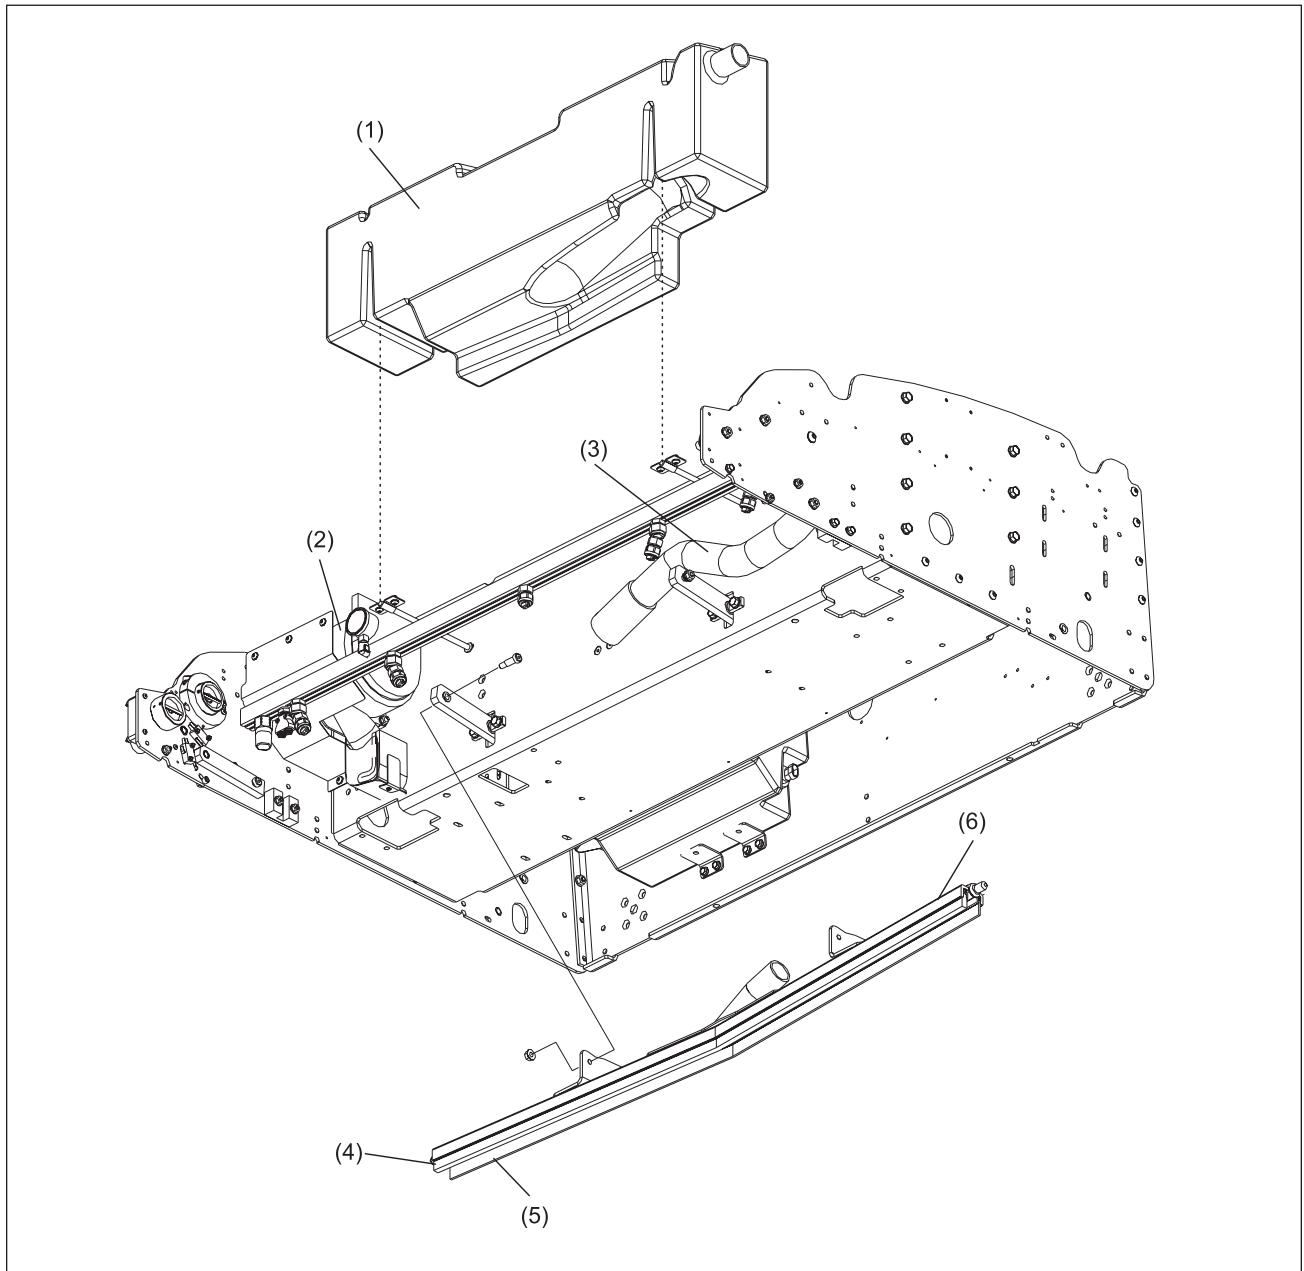

Figure 2-5. Cleaner Vacuum System - Bottom View
- The **absorbent wiper** agitates the cleaning fluid on the lane to loosen dirt and old conditioner from the surface. Refer to Figure 2-5.
- The **squeegee blade** channels waste fluid to the center of the **squeegee head assembly**. Refer to Figure 2-5.
- All waste fluid is suctioned into the **waste recovery tank**. Refer to Figure 2-5.